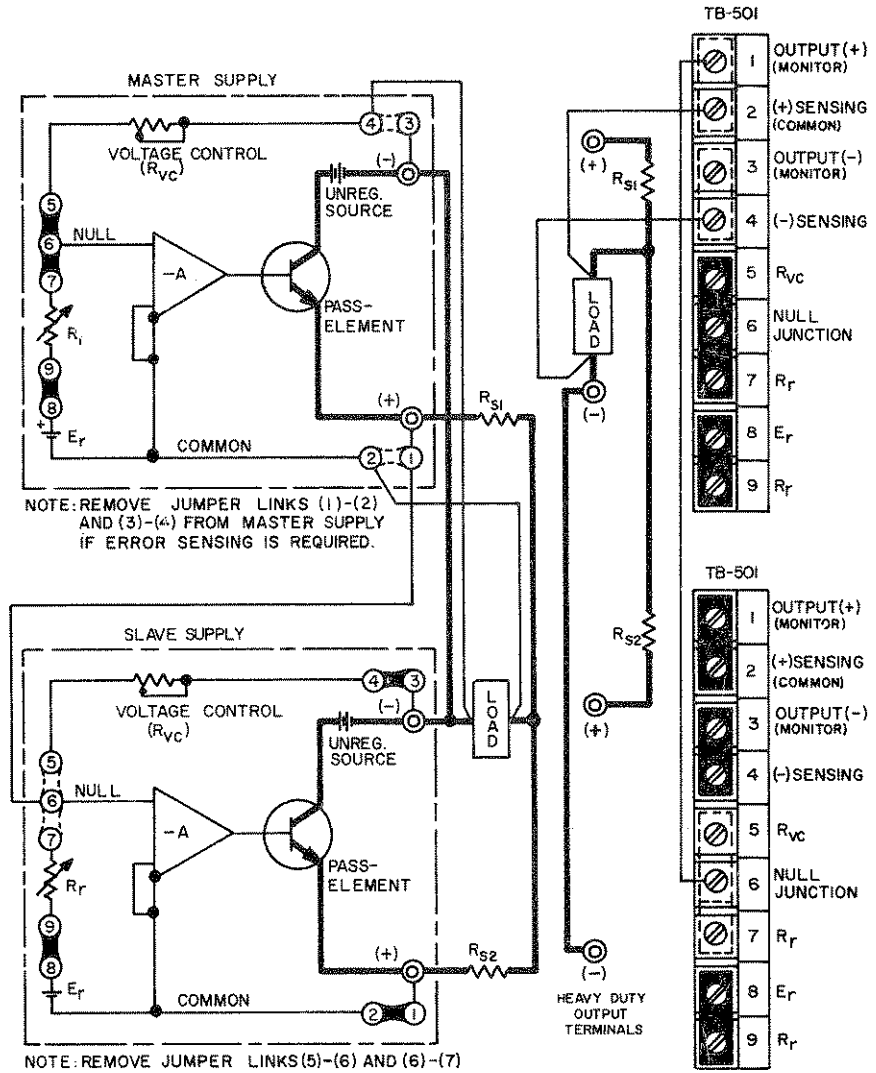

FIG. 3-14 MASTER SLAVE PARALLEL CONNECTION OF KEPKO POWER SUPPLIES
- 3-45 **MASTER/SLAVE PARALLEL CONNECTION.** Two power supplies are shown in FIG. 3-14, although more can be paralleled, each unit requiring its own sampling resistor. The sampling resistors ( $R_{s1}$ ,  $R_{s2}$  in FIG. 3-14) are of equal value and are selected such that the voltage drop across them (due to the output current), plus the voltage drop in the load connection leads does never exceed 0.5 volts. If the voltage drop across the load connecting leads alone is at least 0.1 volt, the sensing resistors can be deleted since the leads provide the necessary sample voltage. For equal current sharing, however, the lead *length* and *diameter* should be the same for both power supplies. Output control is exercised from the "Master" supply.
- 3-46 **PROCEDURE FOR "MASTER/SLAVE" PARALLEL OPERATION** (See FIG. 3-14)
- 2) Make all load and sensing connections as shown in FIG. 3-14. The error sensing connections may be deleted if the minor voltage drop across the load wires (which subtracts from the available compliance voltage) can be tolerated.